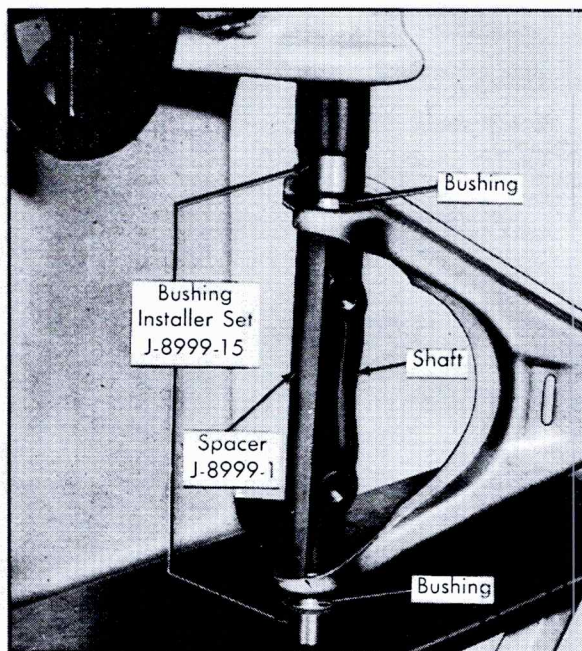

Fig. 3-20 Installing Shaft and Bushing In Upper Arm
2. Insert bushing in one end of arm and place arm and bushing on Bushing Installer, with outer end of bushing seated in Installer, Fig. 3-20.
4. Position bushing on opposite end of shaft, and place the other Bushing Installer, J-8999-16, on top of bushing. Hold assembly in place by exerting slight pressure on arbor press, Fig. 3-20.